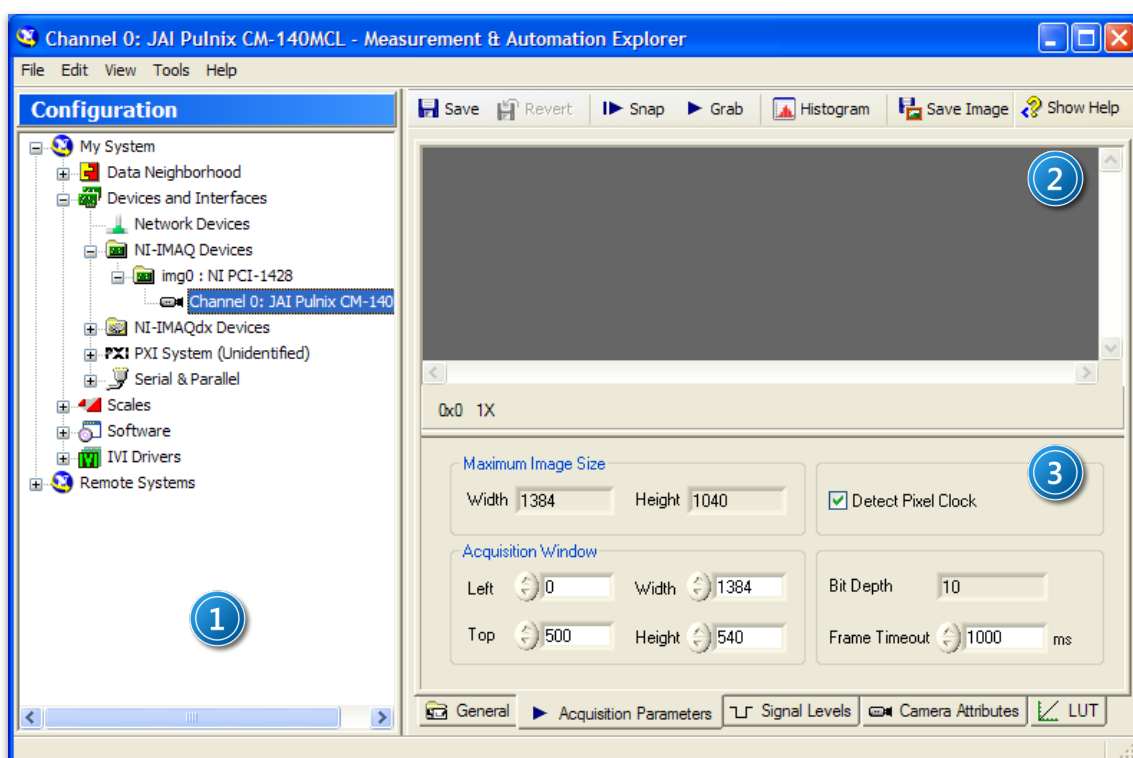

Figure 3. *NI Measurement & Automation Explorer* program window: 1 – left panel; 2 – CCD camera preview panel; 3 – panel for adjusting the camera parameters.
3. Start the camera preview using the left panel (1, Figure 3).
NI-IMAQdx Devices, click on the camera interface symbol **JAI Inc. RM-4200GE**, and then turn on the preview by clicking  Grab in the preview panel (2, Figure 3).
1. The button  Grab on the preview panel (2, Figure 3) is used to enable or disable continuous viewing of the CCD camera image.